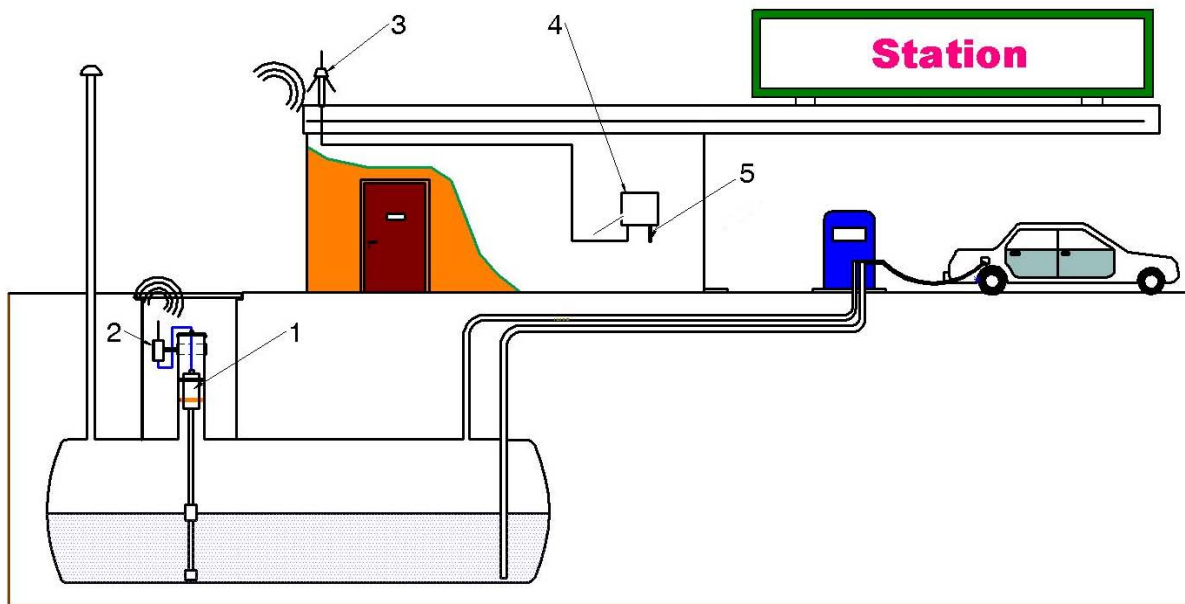

Figure 2: Typical layout of a petrol station
Figure 2 below shows a typical petrol station layout. The VISY-Stick probe (1) is fitted inside the tank. The probe is linked to VISY-RFT-L radio transmitter (2) and receives its power from an intrinsically safe battery inside the transmitter. The radio transmitter generates radio signals, represented in the diagram by a series of arcs. These radio signals are received by an external aerial (3) and are forwarded to VISY-Command RF (4) along a 50-ohm coaxial cable. For viewing, the evaluated data can be forwarded to other peripheral equipment (VISY-View, PoS, BOS, etc.).